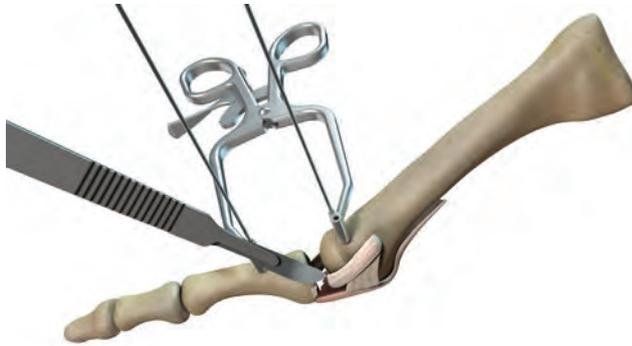
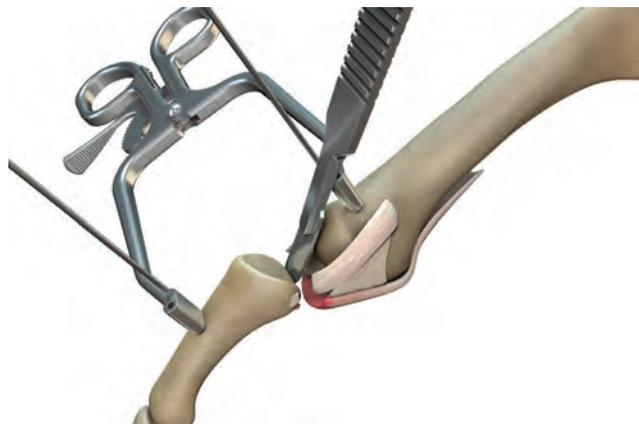

Figure 4a
Figure 4b
5. Under tension, dissect both collateral ligaments (Figure 4a) and the entire plantar plate (Figure 4b) using a #15 blade precisely at the level of the metatarsal head. Ensure that the Flexor Digitorum Longus Tendon (FDL) is not damaged during the dissection. Remove the residual parts of the collateral ligaments and the plantar plate on the base of the proximal phalanx with rongeurs and a curved blade.